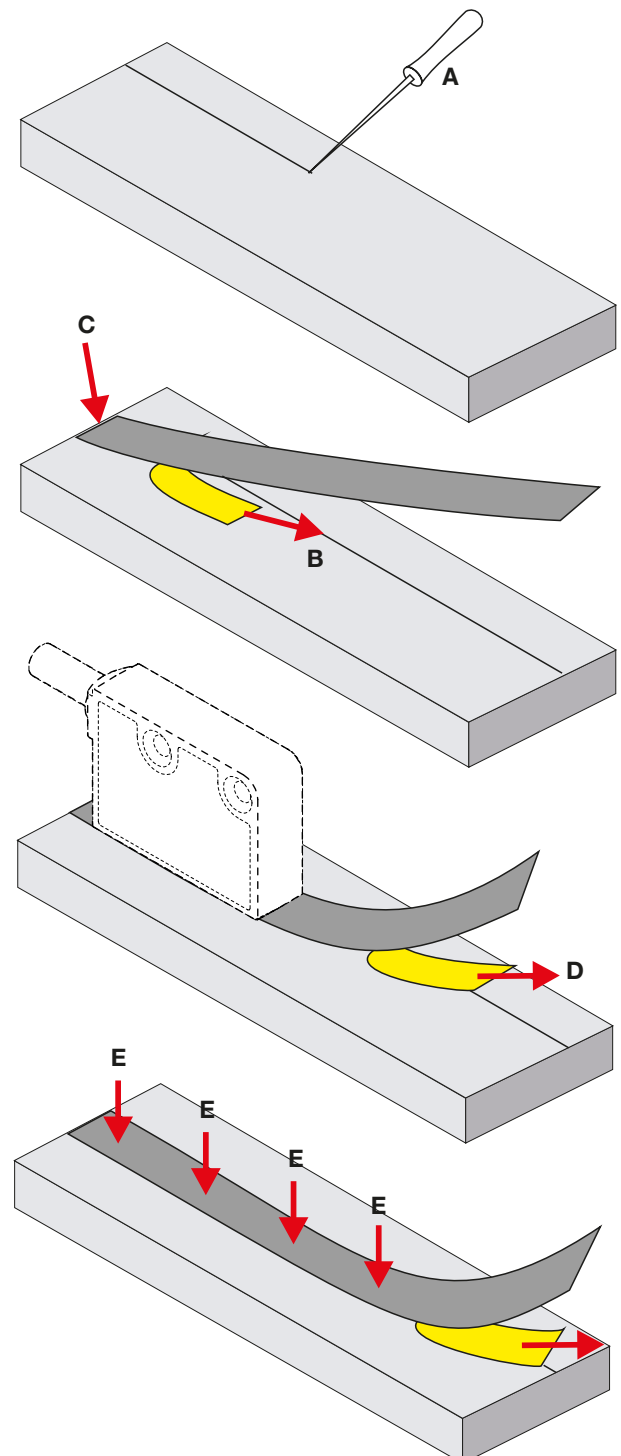

Fig. 4-4: Fastening the tape to a flat surface
1. Mark the reference edge of the tape on the machine part (Fig. 4-4, A).
5. Pull back the film from the back end of the tape (Fig. 4-4, B), align the tape and lightly attach the tape (Fig. 4-4, C).
6. Remove another section of film (Fig. 4-4, D), align the tape and gently press down (Fig. 4-4, E).